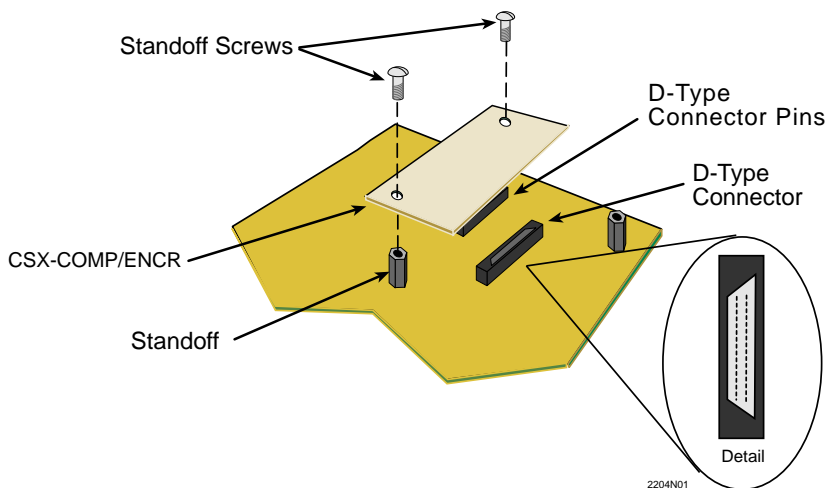

Figure 14 CSX-COMP/ENCR
5. Locate the D-Type connector and the standoffs on the CSX400 (refer to Figure 14).